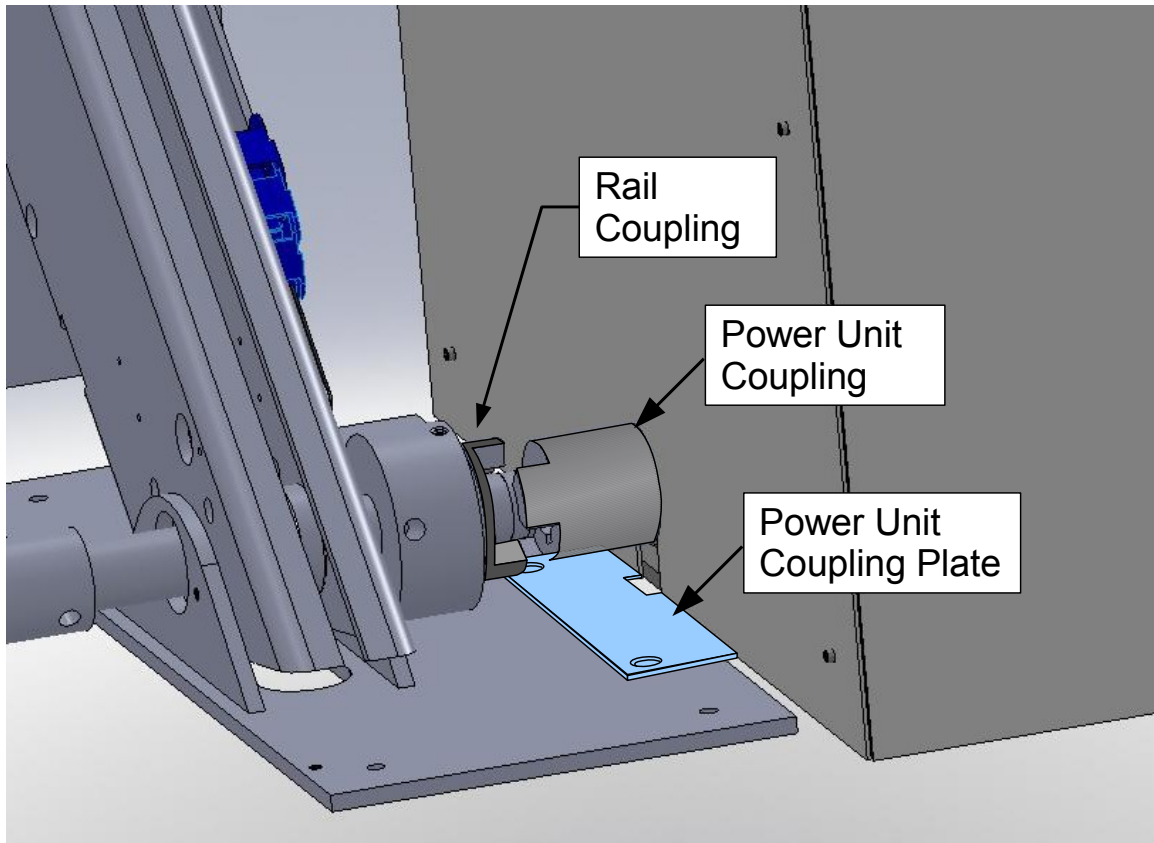

Figure 12: Power Unit Alignment
The power unit coupling corresponds to the rail coupling coupling on the drive shaft extending from the guide rail as shown in Figure 12. The teeth need to be aligned before the couplings may be mated together; this is easily done with the ratcheting feature of the rail coupling.
- Line up the coupling on the power unit with the coupling on the drive shaft and push the power unit toward the rail until they mate up (see Figure 12). Be careful not to move the guide rails. Do not anchor the power unit to the floor until Section 9.